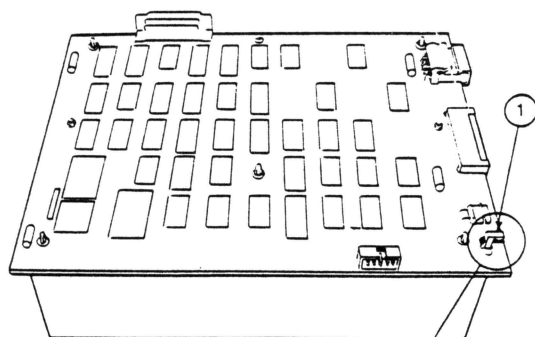

FIGURE 10
1. Attach the LED cable to its connector on the controller card (Figure 10). Make sure the LED cable exits down and away from the card (Figure 10, #1).